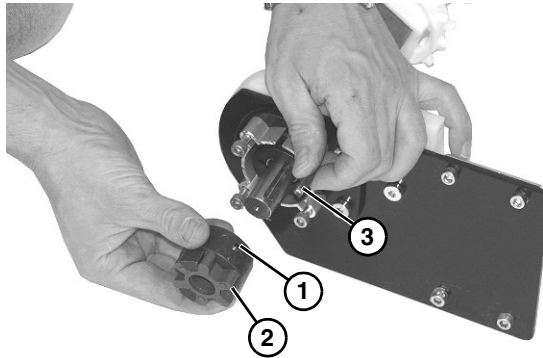

Figure 40
4. Loosen set screw (**Figure 40, item 1**) and remove coupling (**Figure 40, item 2**).
5. Remove key (**Figure 40, item 3**).